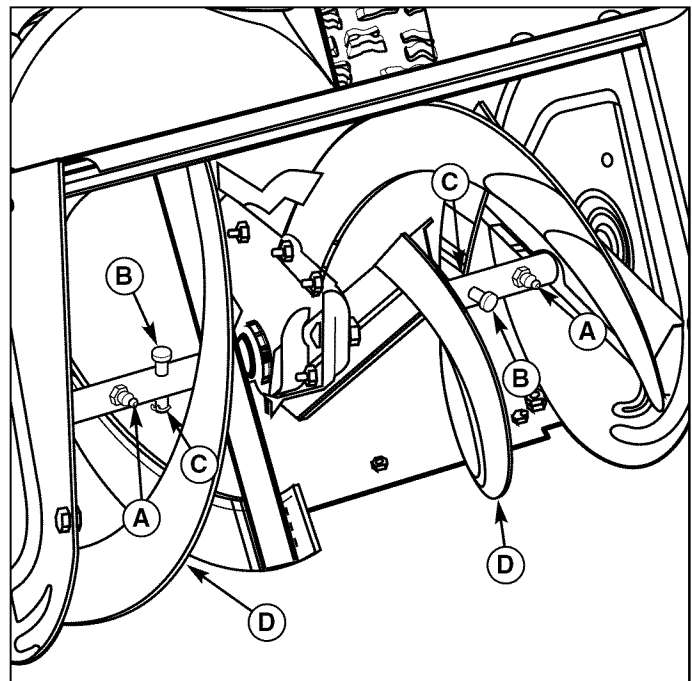

Figure 16. Lubricating the Auger Shaft Assembly
1. Remove cotter pin (C, Figure 16) and shear pin (B).
2. Use a grease gun and squirt several shots of grease into grease fitting (A).
3. Rotate auger assembly (D) several times to distribute the grease evenly. Repeat step 2.
4. Reinstall shear pin (B) and cotter pin (C).